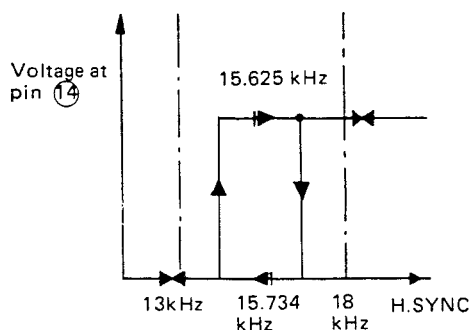

Figure 3-21
The pulse going out of pin ② of IC3001 is integrated in R3010 and C3004 to become DC voltage which is sent to pin ⑦. Pin ⑦ is + input of the comparator and pin ⑥ is - input: the output signal is caused at pin ①. As shown in Figure 3-21, when the 50 Hz sync signal is received, the voltage at pin ⑦ becomes higher than the voltage at pin ⑥ to send out High-level signal from pin ①. When the 60 Hz sync signal is received, on the other hand, the voltage at pin ⑦ becomes lower than the voltage at pin ⑥ to send out Low-level signal from pin ①. By the output from pin ①, the Q3002 and Q3003 are switched on and off.